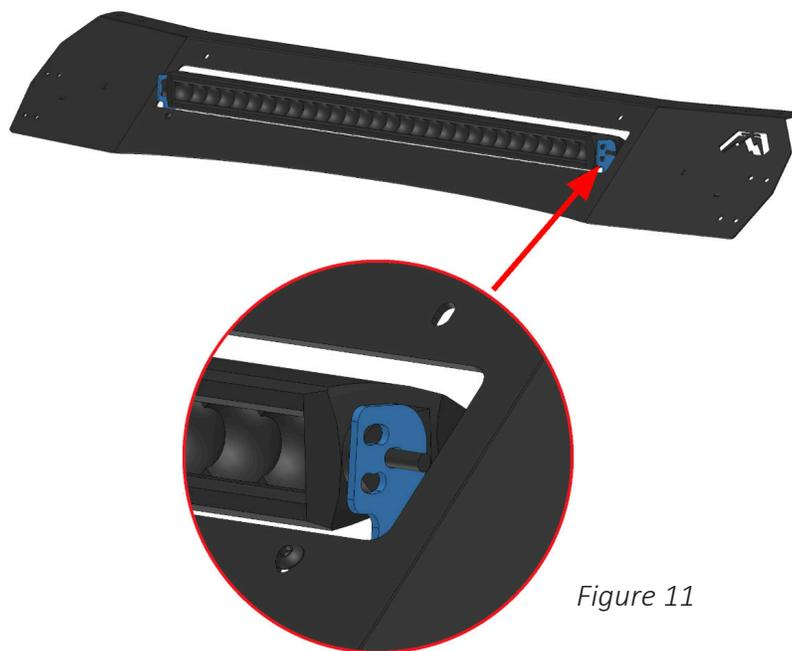

Figure 11
10. If installing a 30" SR series light bar: Use the provided mounting brackets (23432 and 23433) with 2x M6 BHCS and M6 flange nuts in the orientation shown in figure 11. Place a small amount of the provided 242 Loctite on each bolt before installation. Figure 11.